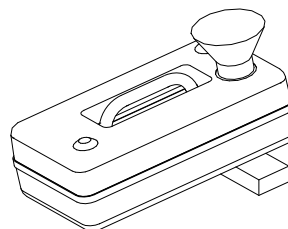

Figure 3-11.
2. Place a funnel into the opening and pour a loosely mixed, flowing concrete into the box. Funnel may require slitting to fit opening of Ballast Block. To achieve the required Ballast Block weight of 50 pounds, fill it completely by positioning it on an angle. See Figure 3-11. The weight of the ballast block may vary due to the consistency of the concrete mix. Do **not** use mortar mix. This will not give the required minimum Ballast Block weight of 50 pounds. Use a scale to determine the weight of the ballast.